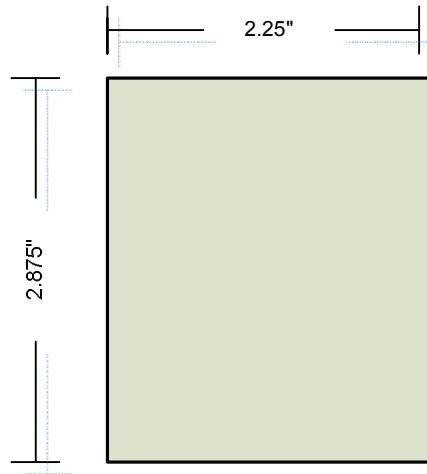

FIGURE 1
1. Cut a hole in the wall at the desired mounting location with the measurements listed in figure 1